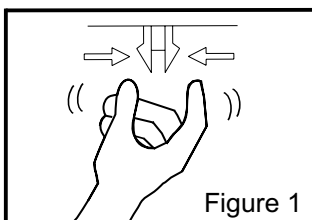

Figure 1
STEP 1. Detach the plastic, top step pad from the bumper by pinching the plastic trees together as shown in Figure 1. Be careful not to damage the trees.